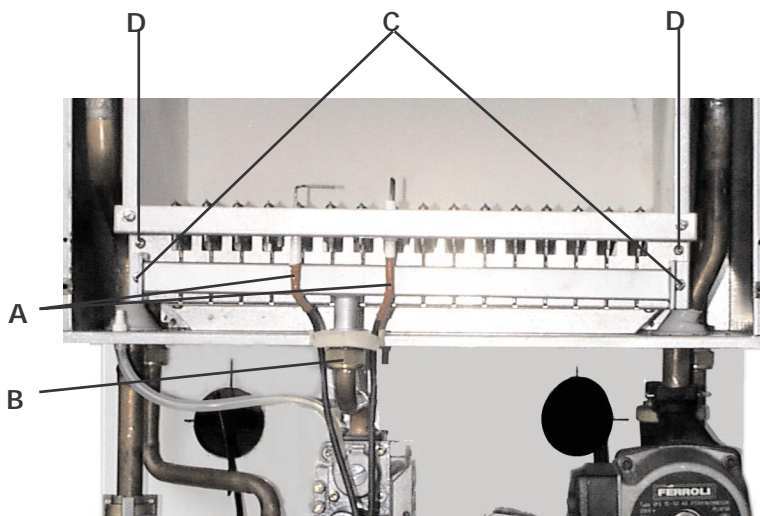

Fig. 30
7.09 Removal of burner (fig. 30)
7.10 Injectors (fig. 30)